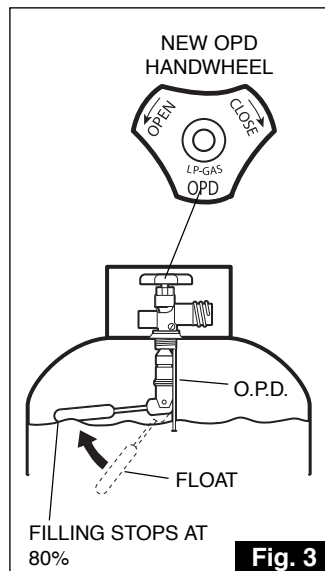
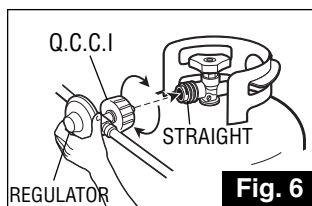

Fig. 3
Fig. 6
O.P.D. or Overfill Protection Device prevents accidental gas leaks caused by cylinder "over pressurization", the leading cause of cylinder gas leaks. The float in the tank will automatically stop filling at 80% capacity, leaving a 20% area for the expansion of liquid. Without this safety feature, the relief valve may open and discharge propane, creating a potential safety hazard. An O.P.D. cylinder is easily distinguished by its triangular hand wheel valve. (Figure 3)
- It will not allow gas to flow until a positive seal has been made (Figure 6)
Prior to attaching the propane cylinder to the hose and regulator, be sure the cylinder valve and the appliance valves are OFF. The cylinder valve is turned off by rotating the handwheel (see Figure 3) clockwise (left to right) until it stops and all appliance valves should be in the twelve o'clock position. When attaching the regulator to the cylinder, make sure that the small probe in the nipple is centered in the mating Q.C.C. 1 cylinder valve (see Figure 6). Turn the right hand threaded Q.C.C.1 black nut onto the valve in a clockwise motion until there is a positive stop.